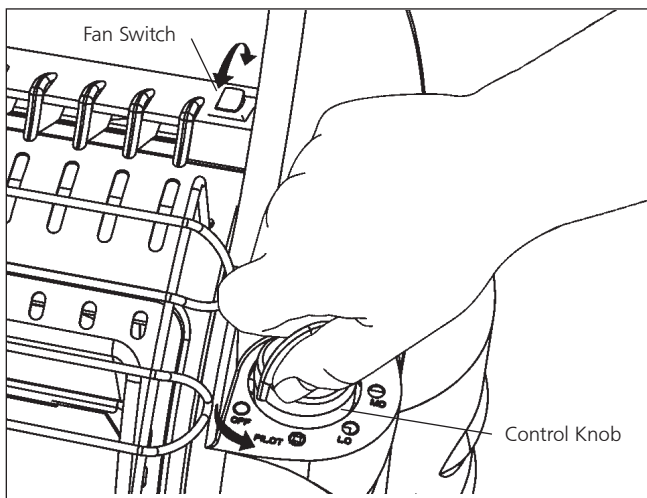

Figure1
- Make sure five-position Control Knob is in "OFF" position; see Figure 1.
- For added heat circulation turn red fan switch to on. The fan switch is located just left of control knob side handle support. See Figure 1.
- Make sure five-position control knob is in "OFF" position; see Figure 1, at left.